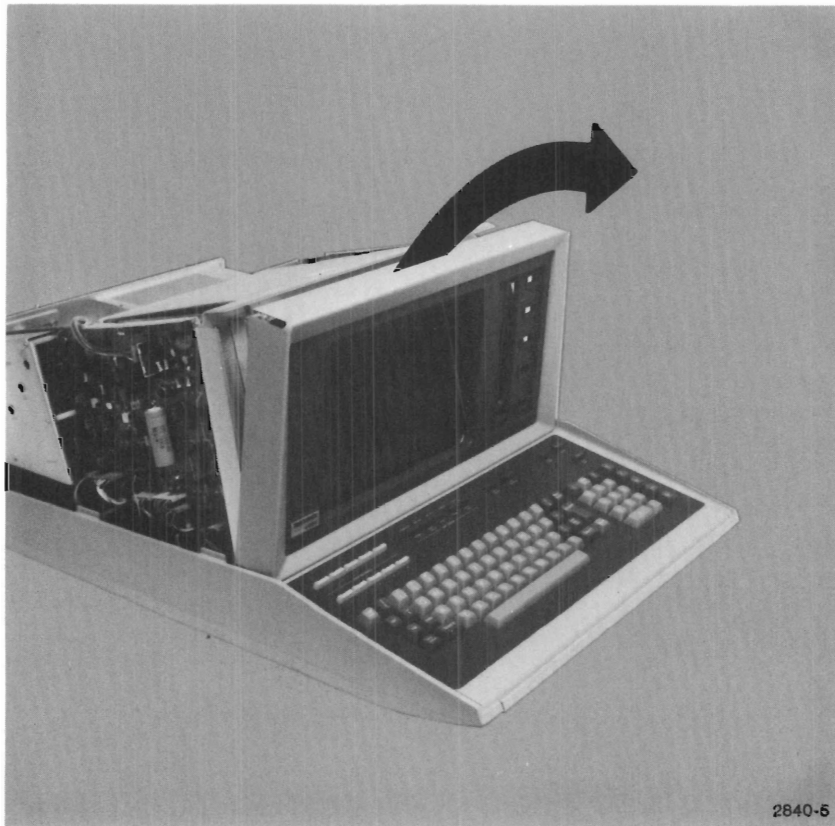

Figure 3-11. Front Bezel Removal.
2. Remove the bezel that frames the crt face, indicator lights, and EJECT button (Figure 3-11). Lift the top flange of the bezel and then pull it forward. You may have to help it over the EJECT button.